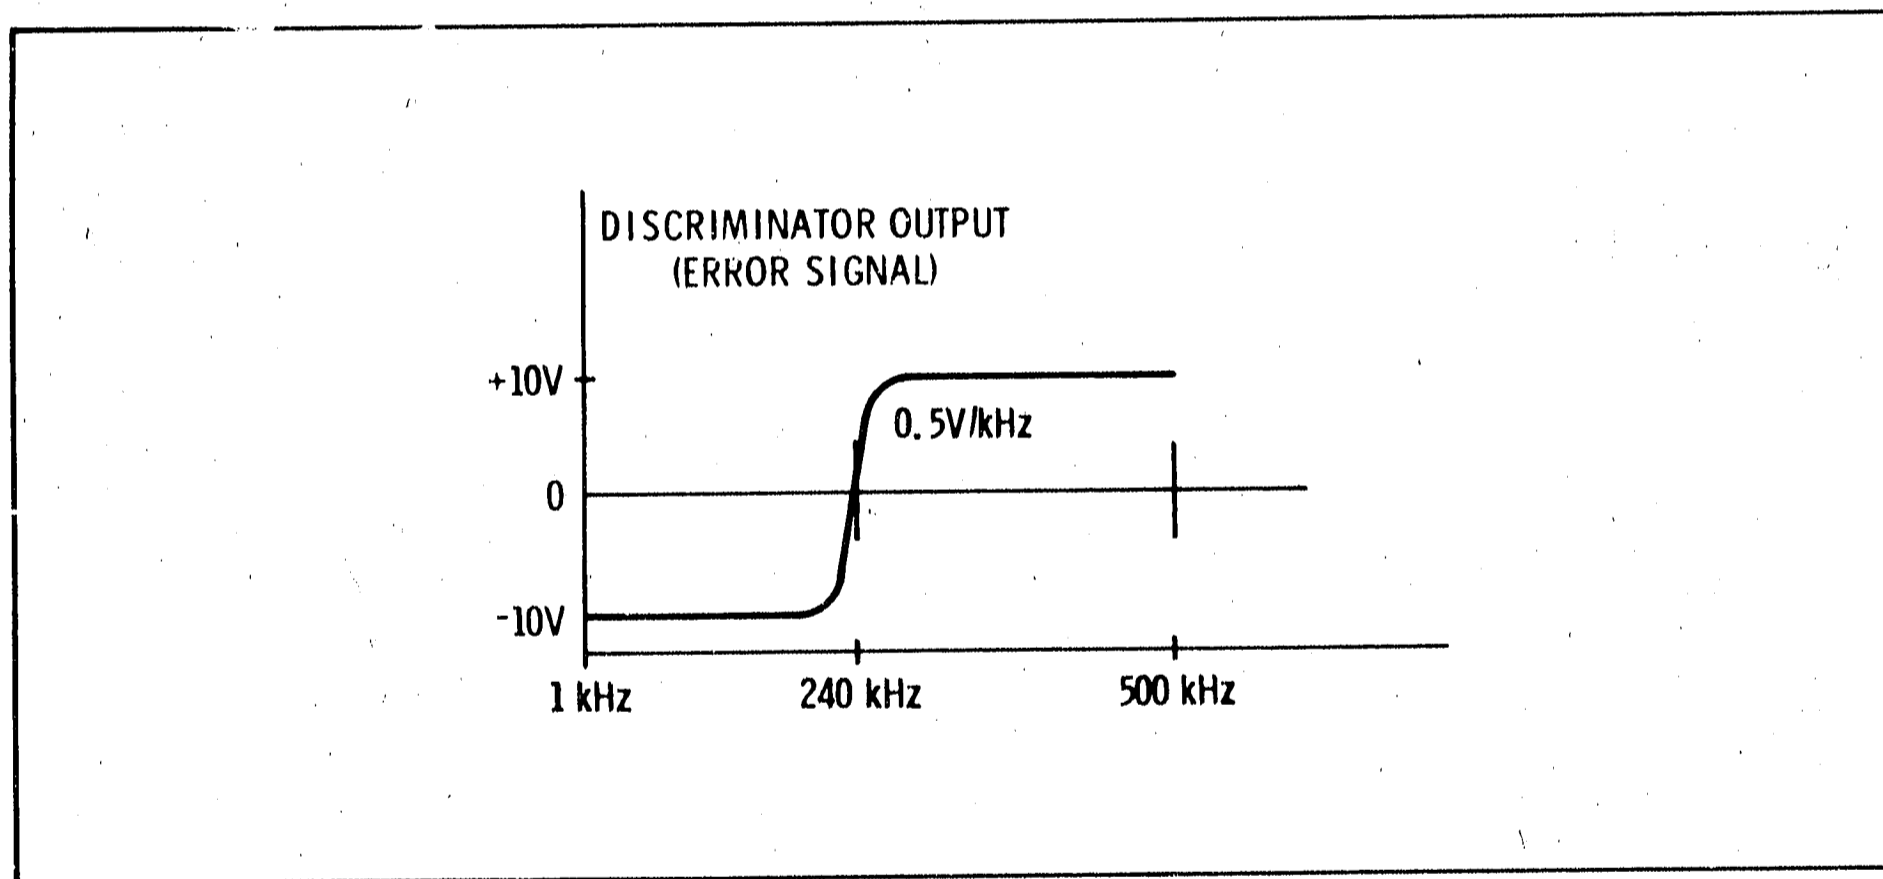

Figure 8-96. Discriminator Output ERROR Signal
**Pulse Width Controlled Voltage Generator** (L). The output of the EXCLUSIVE OR circuit is applied through A1Q9, A1Q8, and associated circuitry where the signal is buffered, offset, and filtered. Q9 and Q8 are connected as a dc-coupled differential amplifier. The error output signal is a dc voltage related to frequency as indicated in Figure 8-96. Immediately after the YTO (first LO) is stabilized, the ERROR signal will be approximately 0 Vdc. Now if the YTO is increased in frequency because of drift or noise, the ERROR signal will go negative and bring the YTO back to very nearly the same frequency. If the YTO is decreased in frequency, the ERROR signal will go positive. Slightly tuning the coarse TUNING control will have the same effect. R30 and C17 constitute a low pass filter.
Vary the frequency of the oscillator while observing the discriminator ERROR output at C4. The discriminator output should vary as shown in Figure 8-96. If the correct output is not obtained, perform the following tests with the oscillator still connected to measurement point A.